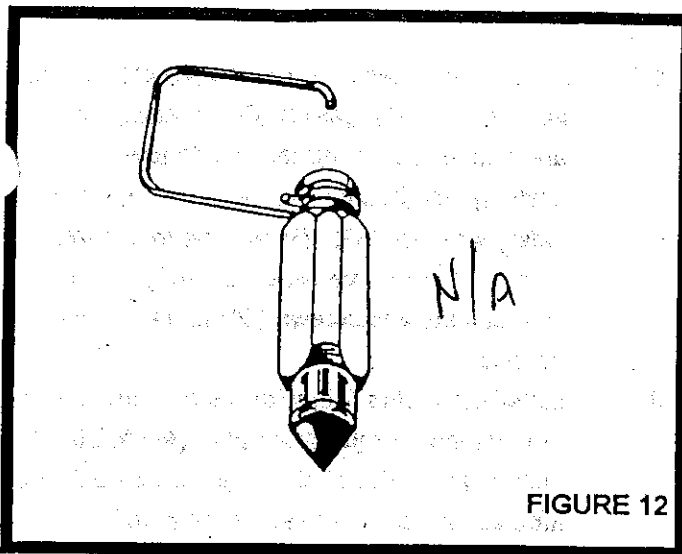
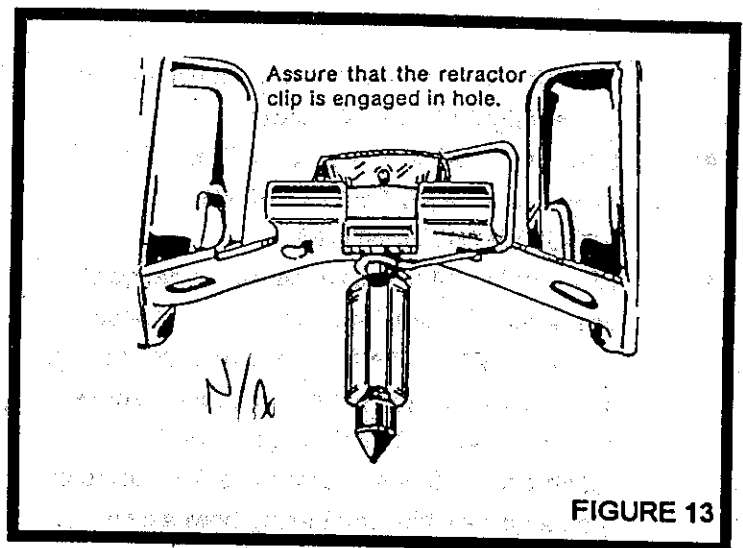

FIGURE 12
FIGURE 13
- 52) To install the float, place the throttle body with the mounting flange down and install the proper throttle body to bowl gasket (8).
- 53) Place the float valve retractor clip (6) on the float valve (7) as illustrated in Figure 12. Place the float valve and retractor clip on the float (5) as illustrated in Figure 13.
- 54) Make sure the float valve is centered on the adjustment tab on the float. The float valve retractor clip should not hold the float valve tight against the float lever but have approximately .005" clearance when viewed as in Figure 13.